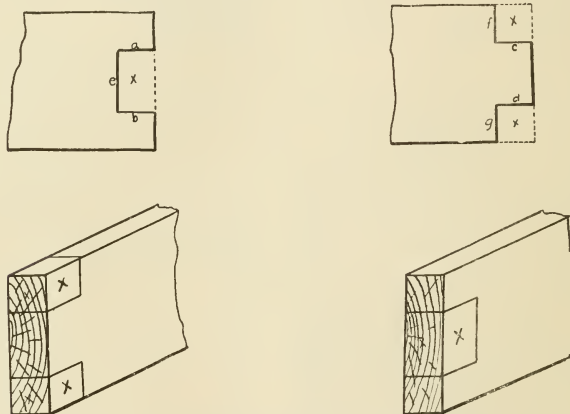

FIG. 44.—HALVED JOINTS OF SEED-TESTING BOX.
11. **Laying out the halved joints.** — In laying out the halved joints at the corners, set the marking gauge at $\frac{7}{8}''$ and gauge both ends of the four pieces, gauging from the two edges as at *a, b, c, d* (Fig. 44), then gauge across the ends as at *e, f, g*, being careful that both ends of each